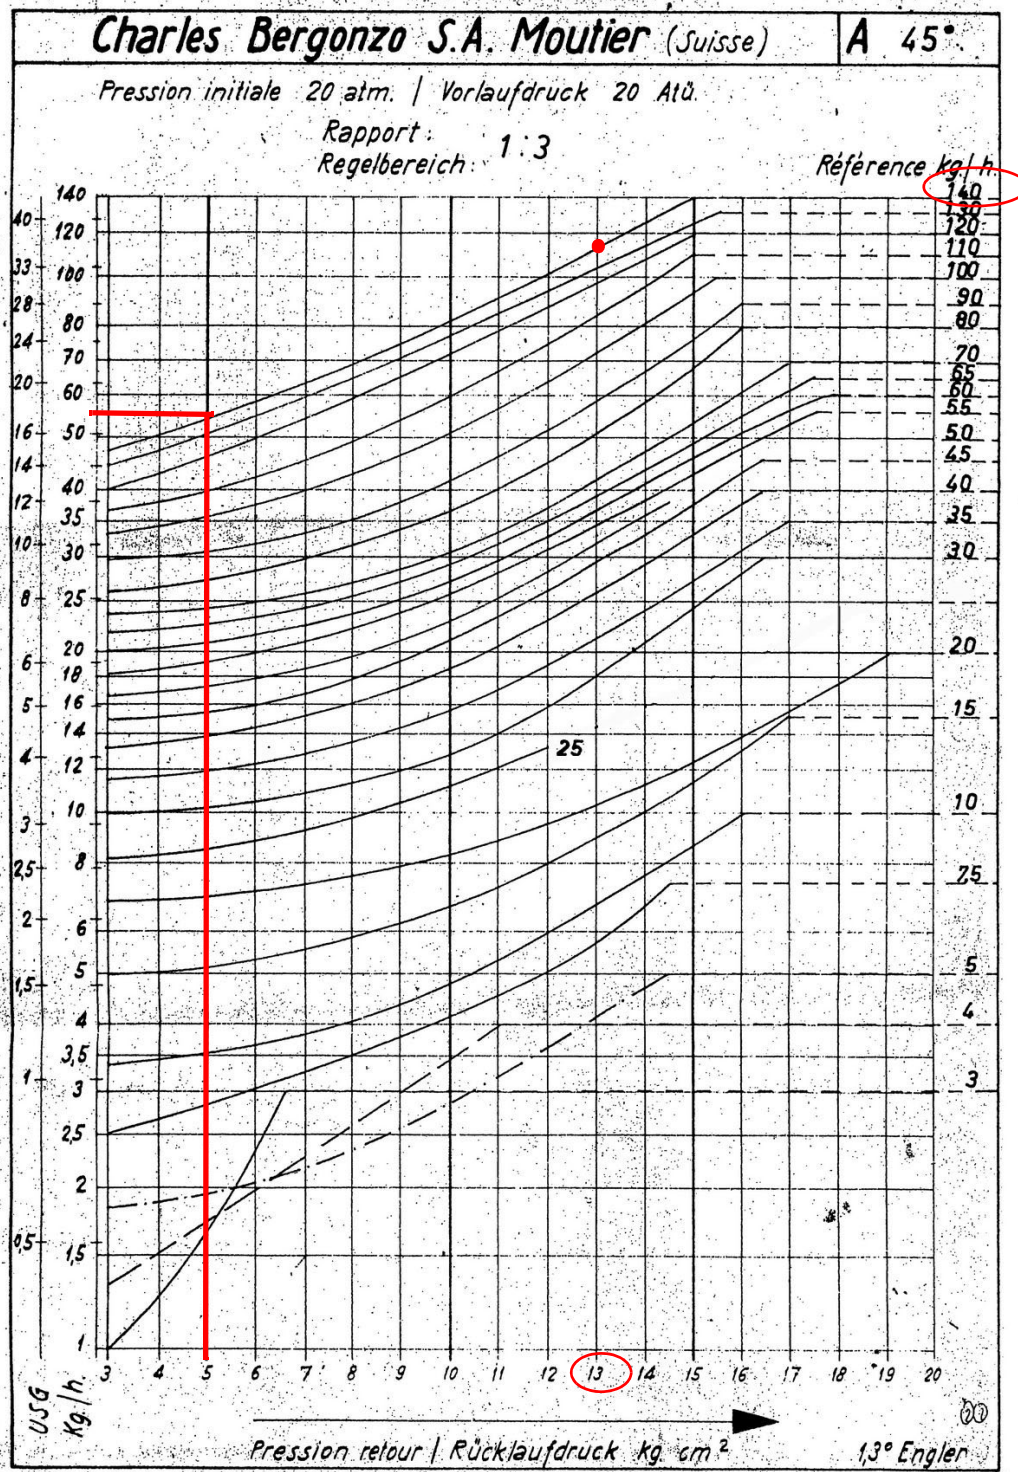

Fig. 16
- 3 bleed the air from the **M** pressure gauge port (Fig. 16) by loosening the cap without removing it, then release the contactor.